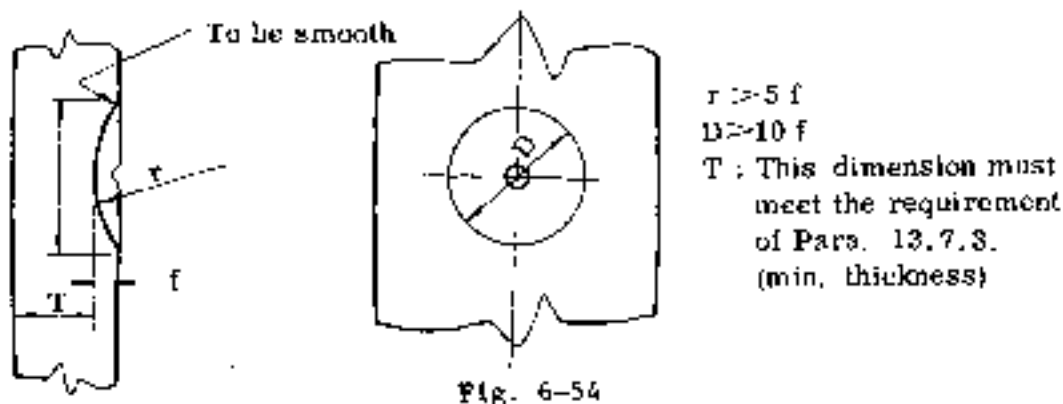

Fig. 6-54
- (2) Damages on blade surface (See Fig. 6-54)